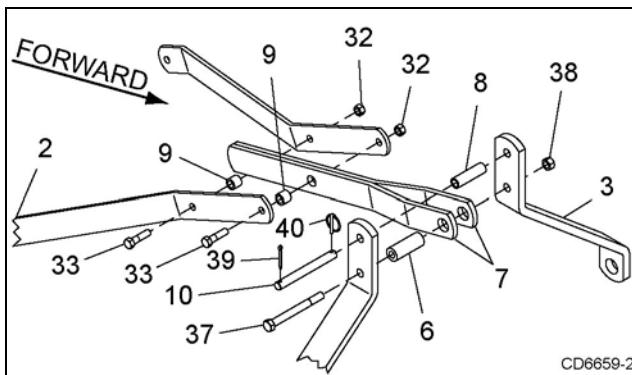
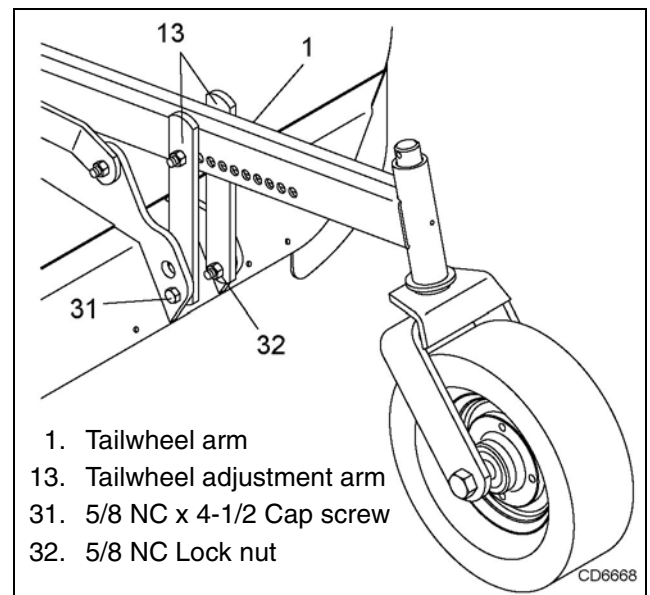
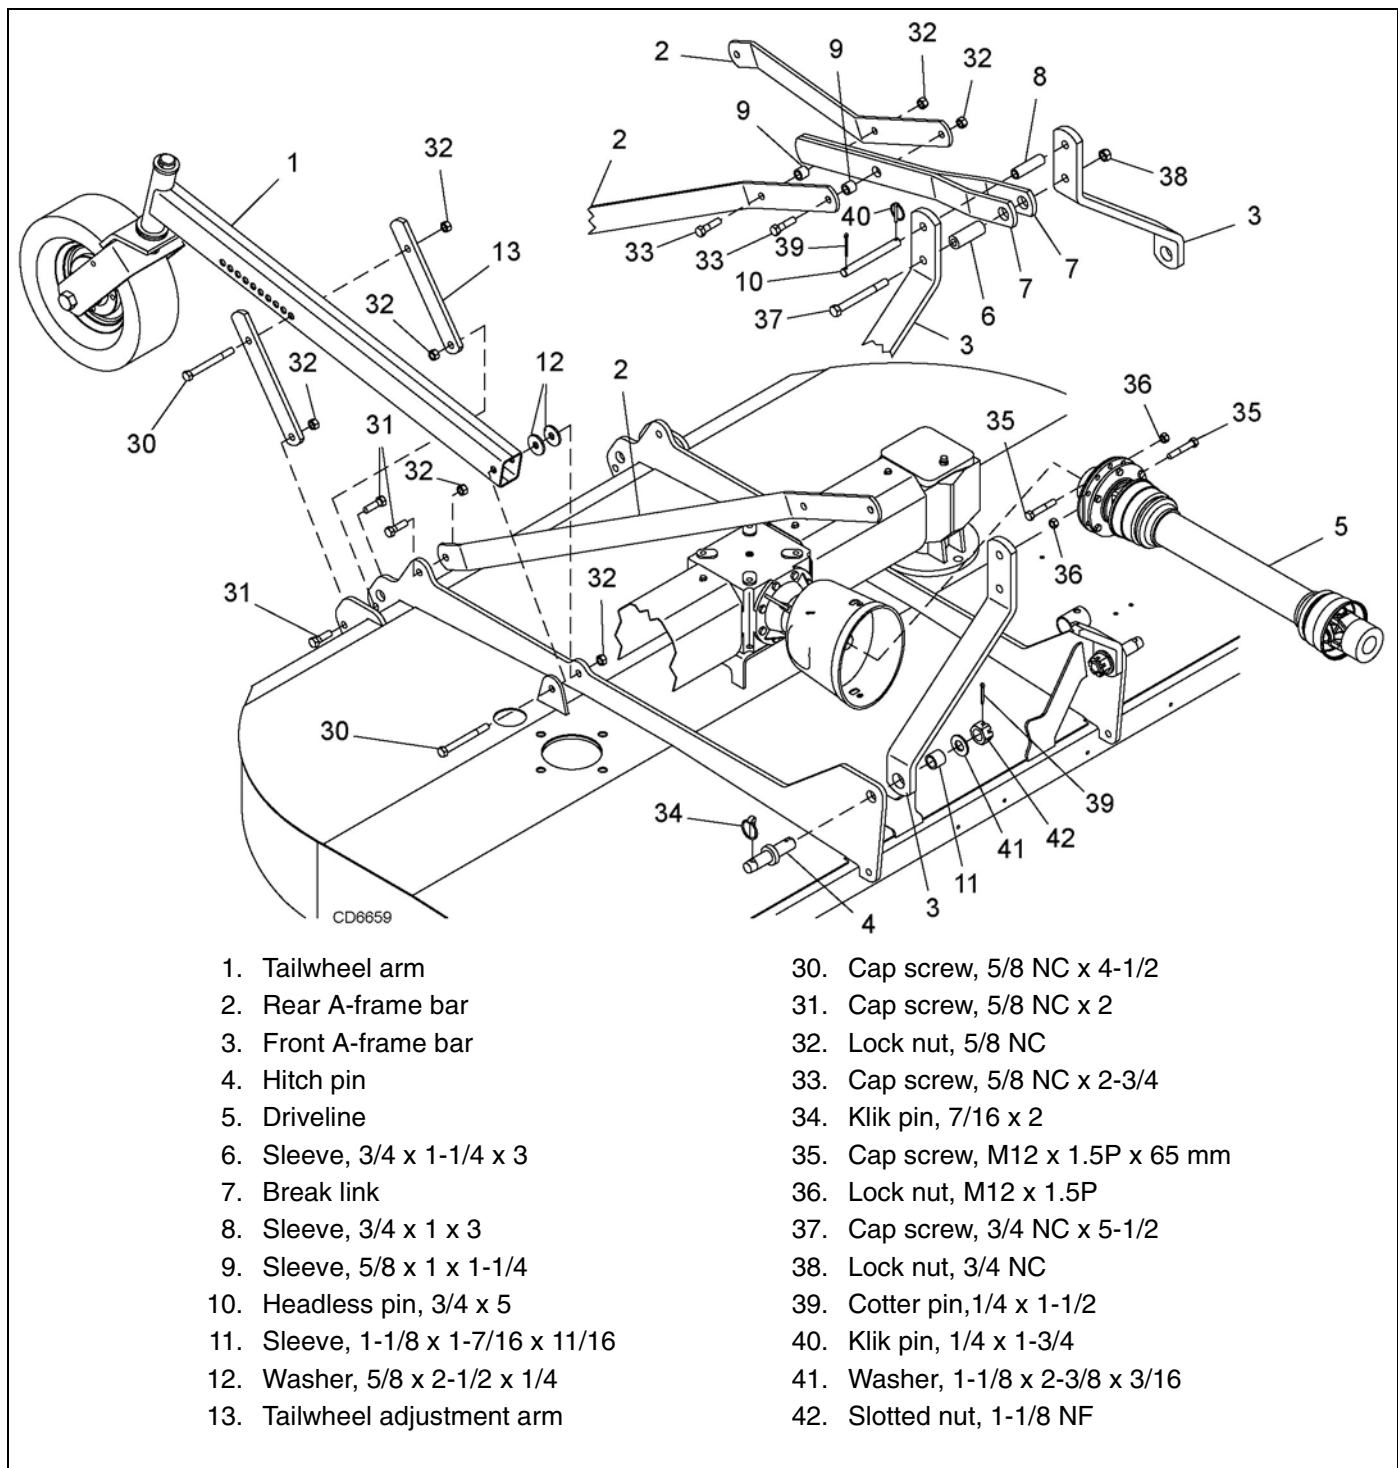

Figure 37. Break Linkage Installation
Figure 38. Adjustment Arm Installation
Figure 39. DS96 Mounted Assembly
Refer to Figure 39.
Refer to Figure 37 and Figure 39
Refer to Figure 38 and Figure 39.
1. Attach adjustment arms (13) to lower holes of lugs on the rear of the cutter. Braces must be placed on the inside of mounting lugs (Figure 38).
2. Secure each adjustment brace with a cap screw (31) and lock nut (32).
3. Attach tailwheel arms (1) between deck rail and lug near the middle of the cutter. Secure into position using cap screws (30), two washers (12), and lock nut (32). **NOTE:** See Figure 39 for washers (12) placement.
4. Align holes on adjustment arms (13) with a hole in the tailwheel arm and insert cap screw (30). Secure with lock nut (32). **NOTE:** Hole positions in tailwheel arms determines cutting height. Final adjustment will be necessary when cutter is mounted to the tractor.